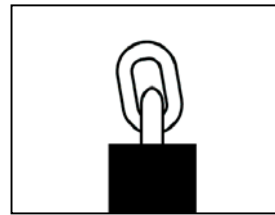

Fig.1 First Link Free
Remove enough insulation from the end of the cable so that the first link of chain is allowed to move freely (Figure 1). Ensure that exposed chain links have not been cut or damaged. A special tool kit designed for field stripping compensating cable is available (Contact Draka-EP for details or to order).
- Raise the counterweight until enough cable has paid off the reel to reach the car frame. Cut the cable with a hacksaw, and prepare the elevator car-side chain link as shown in Figure 1.